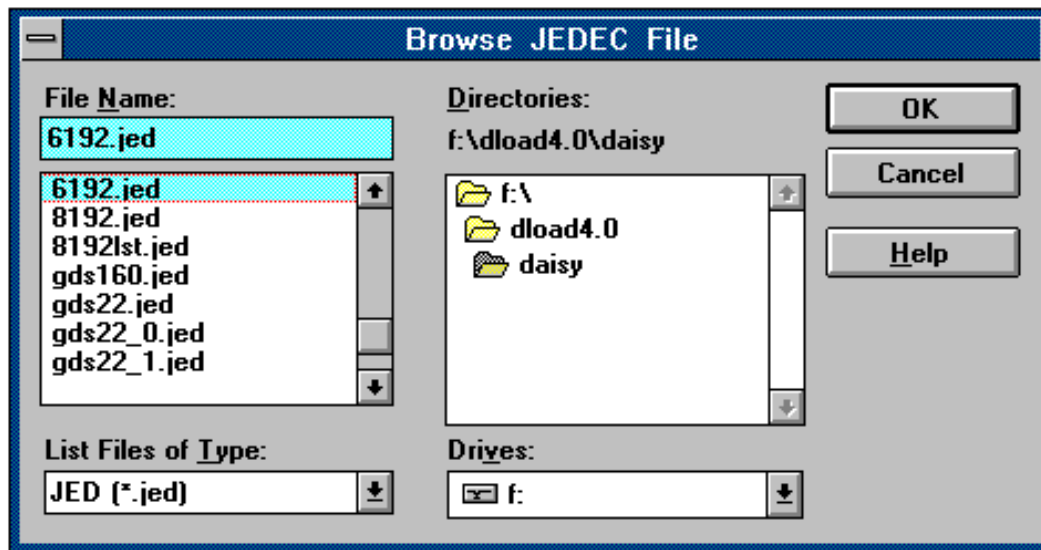

Figure 3-9. Browse JEDEC File Dialog Box
4. Enter the file name or select **Browse** to find a file (Figure 3-9). Use the arrow button to scroll through the lists. Make sure your choices are highlighted and choose **OK**. The Browse dialog box closes and the file name that you chose appears in the Configuration Setup dialog box for that device.